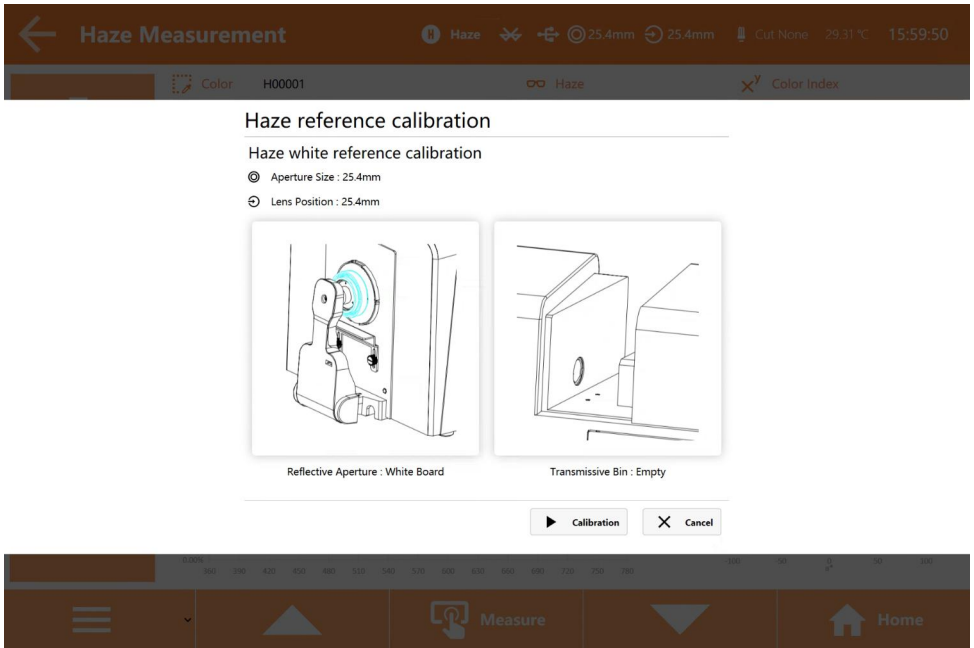

Figure 11 Haze White Calibration
3. After finishing haze black calibration, enter haze white calibration page (Figure 11), place the white calibration plate in reflective aperture. Keep transmissive bin empty. Click “Calibration” to start calibration.